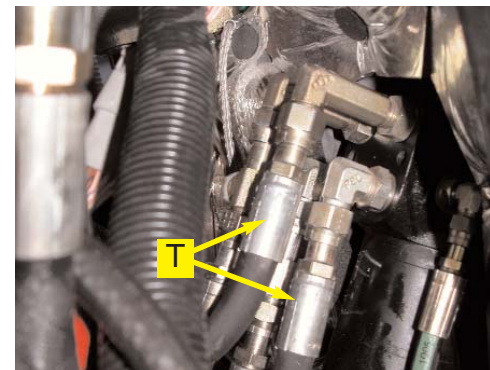

Figure 5a. Steering hoses at the orbital.
- a. Connect automated steering hose (**T**) from the **V1** port on the counter-balance valve to the port on the steering orbital that was originally connected to the tractor steering line. The steering hose (**T**) takes the place of the original steering line that is now connected to the **C1** port of the counter-balance valve. Repeat these steps for the second steering hose (**T**) for port **V2** corresponding to the tractor steering line on port **C2** of the counter-balance valve. (Figure 5a. and 5b.)